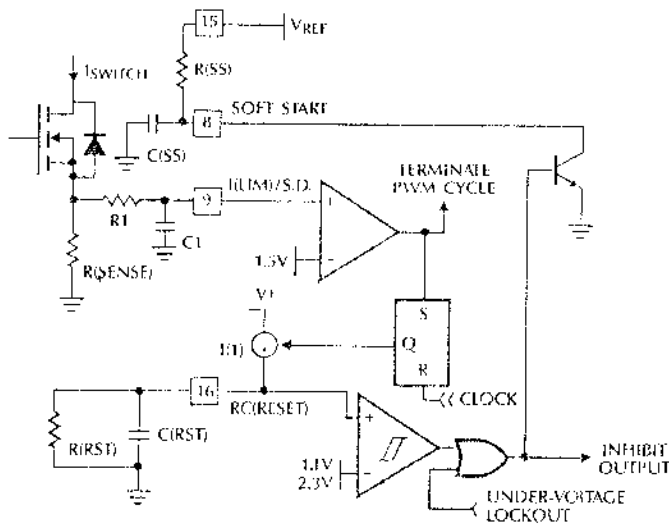

Figure 11. Over-Current, Soft Start, and Integrating Fault Detect Circuits
When the current sensed on pin 9 reaches the 1.5V limit, the PWM cycle is terminated. The flip flop (figure 11) turns on current source I(1) to charge CRST and remains on until CLOCK goes high. The magnitude of current source I(1) is  $.25 \times I_{SET}$  where  $I_{SET}$  is the oscillator charging current. When CRST has charged to 2.3V, a soft start reset occurs. The number of times the PWM cycle is terminated due to over-current is "remembered" on C(RST). Over time, C(RST) is discharged by R(RST) providing a measure of "forgetting" when the over-current condition no longer occurs.